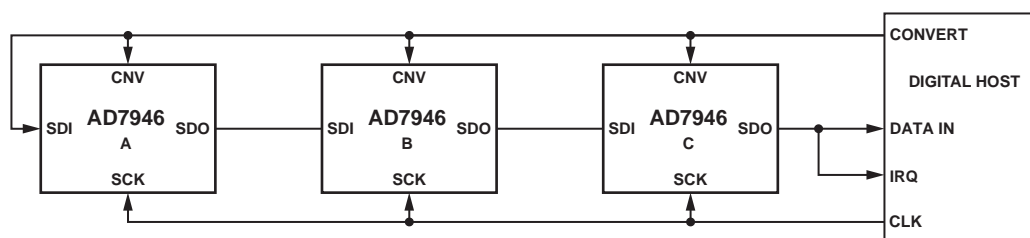
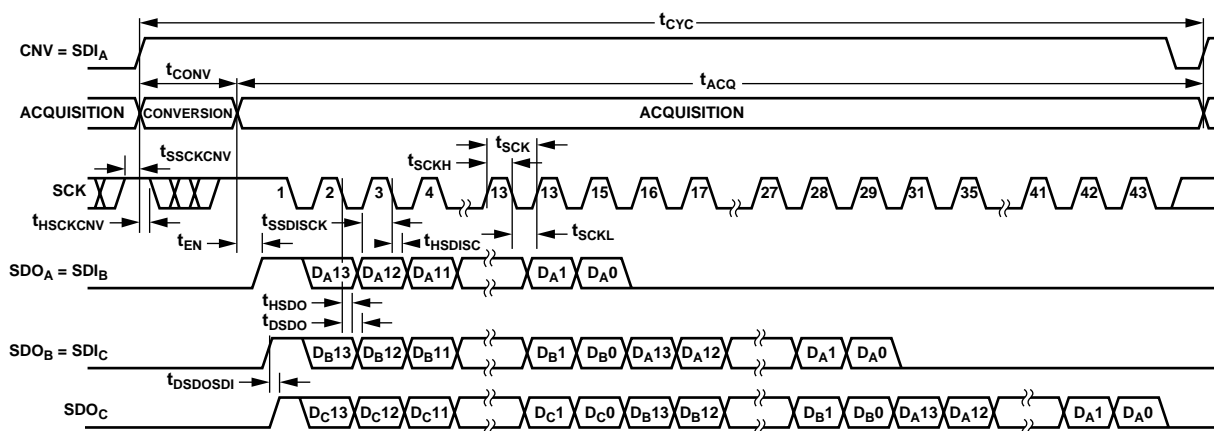

Figure 39. Chain Mode with BUSY Indicator Connection Diagram
Figure 40. Chain Mode with BUSY Indicator Serial Interface Timing
- In the chain mode, if SCK is high during the CNV rising edge (Figure 40).
A connection diagram example using three AD7946s is shown in Figure 39 and the corresponding timing is given in Figure 40.
Figure 39) SDO will be driven high. This transition on SDO can be used as a BUSY indicator to trigger the data readback controlled by the digital host. The AD7946 then enters the acquisition phase and powers down. The data bits stored in the internal shift register are then clocked out, MSB first, by subsequent SCK falling edges. For each ADC, SDI feeds the input of the internal shift register and is clocked by the SCK falling edge. Each ADC in the chain outputs its data MSB first, and $14 \times N + 1$ clocks are required to readback the N ADCs. Although the rising edge can be used to capture the data, a digital host also using the SCK falling edge will allow a faster reading rate and, consequently more AD7946s in the chain, provided the digital host has an acceptable hold time. For instance, with a 5 ns digital host set-up time and 3 V interface, up to five AD7946s running at a conversion rate of 333 kSPS can be daisy-chained to a single 3-wire port.